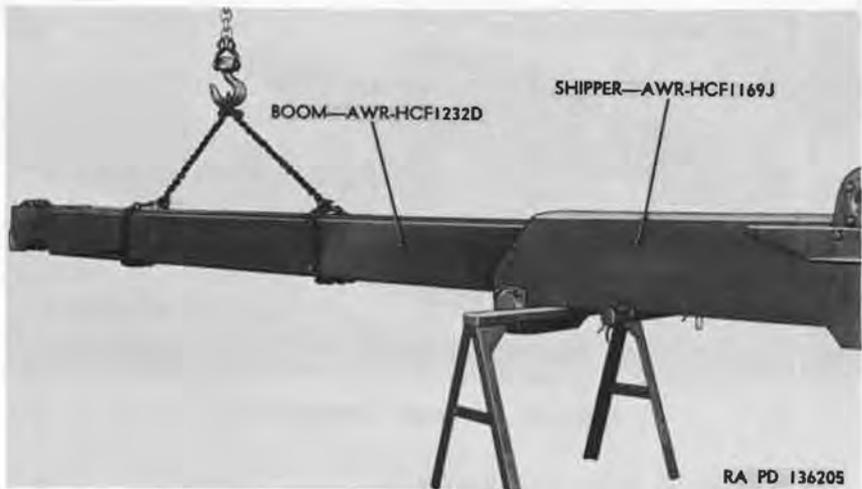

Figure 53. Removing boom from shipper.
- (2) Pull boom from shipper only far enough to attach a chain sling. Attach chain to an overhead hoist and remove boom from shipper (fig. 53).